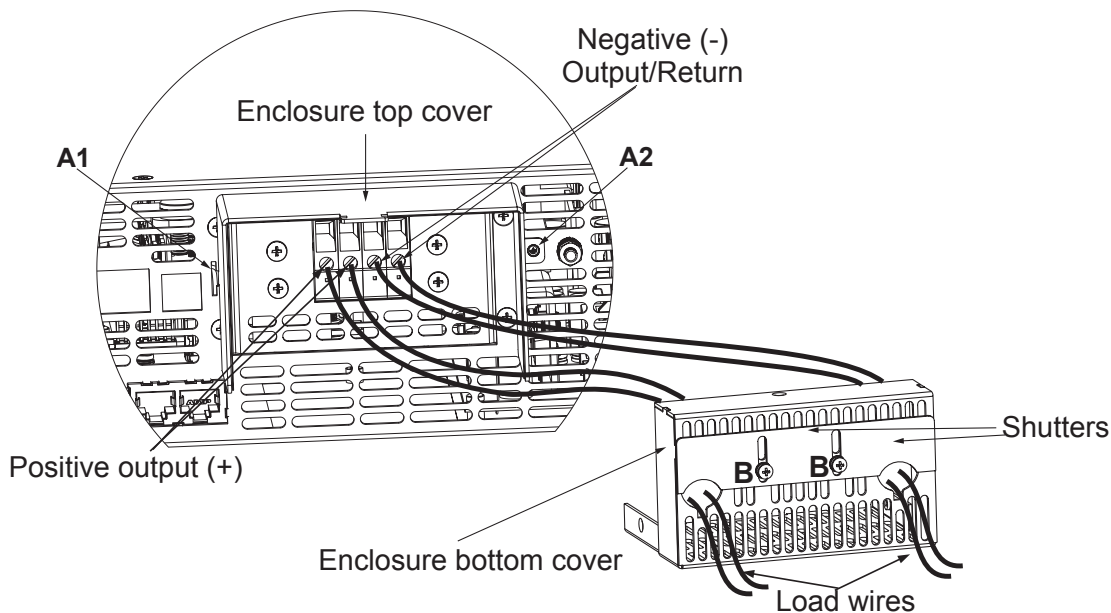

Fig.3-9: Load wires connection to the output connector
4. Insert stripped wires into enclosure bottom cover opening and then to the terminals, tighten the terminals screws securely (see fig.3-9)
5. Assemble the enclosure top cover to the chassis as shown in Fig.3-9, using clamp "A1" and screw "A2", tighten screw "A2" (tightening torque: 4.8 - 5.3 Lb-inch).